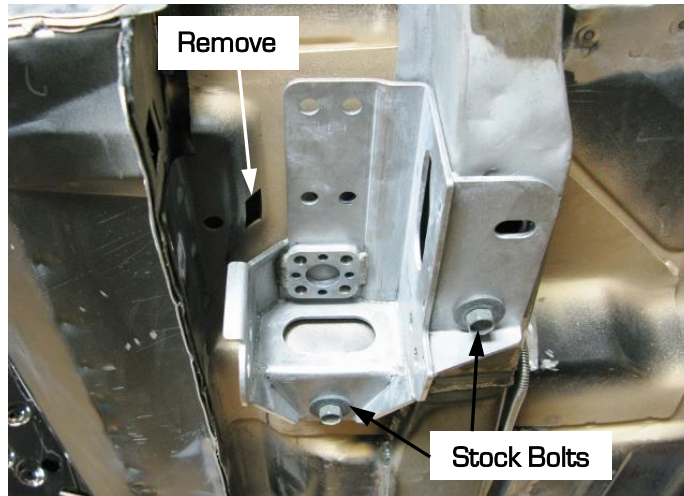

Figure 1 - Position Leaf Spring Pocket Assembly
6. Install the DSE pocket assemblies with your lower links in place of the factory leaf spring pockets using two of the three factory bolts (Figure 1). The U-clip for the 3rd factory bolt that is not used can be removed. **NOTE:** Figure 1 has the Swivel Link removed to show the DSE pocket more clearly.